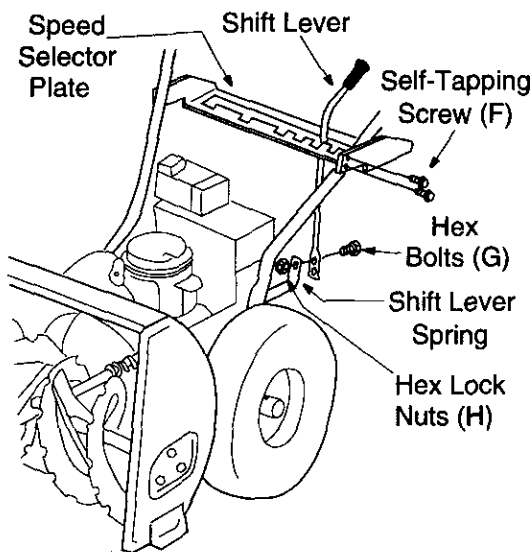

Figure 9
1. Assemble the speed selector plate to the **outside** of the handles as shown in Figure 9. Secure using four self-tapping screws (F).
**NOTE:** The bend in the lever should be towards the operator. Secure shift lever to the shift lever spring using two hex bolts (G) and hex lock nuts (H). Tighten both bolts finger tight. At this point the shift lever and shift lever spring are not against each other. As you tighten the bolts and nuts with two wrenches they will pull together. See Figure 9.